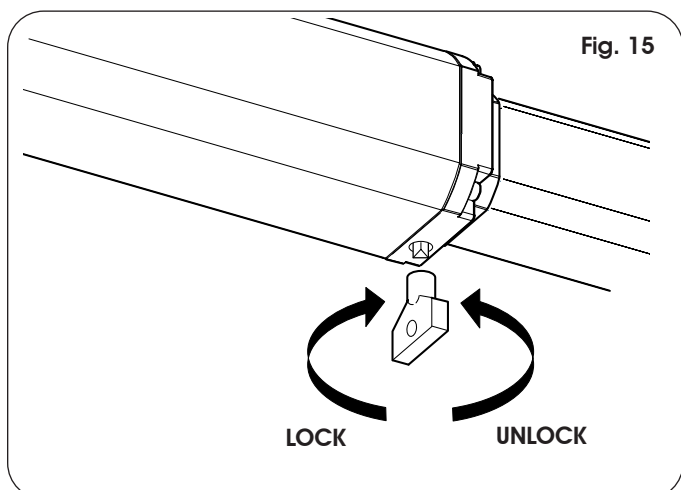

Fig. 15
- Insert the triangular key in the release screw located in the lower part of the flange (Fig. 15).